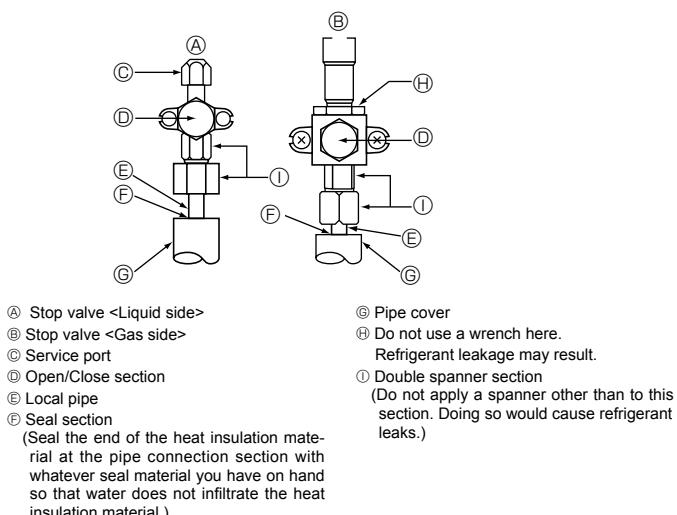

Fig. 4-5
- ② Vacuum-purge air from the indoor unit and the connection piping.
- ③ After connecting the refrigerant pipes, check the connected pipes and the indoor unit for gas leaks. (Refer to 4.4 Refrigerant pipe airtight testing method)
- ④ A high-performance vacuum pump is used at the stop valve service port to maintain a vacuum for an adequate time (at least 1 hour after reaching -101 kPa (5 Torr)) in order to vacuum dry the inside of the pipes. Always check the degree of vacuum at the gauge manifold. If there is any moisture left in the pipe, the degree of vacuum is sometimes not reached with short-time vacuum application. After vacuum drying, completely open the stop valves (both liquid and gas) for the outdoor unit. This completely links the indoor and outdoor refrigerant circuits.
- ⑤ Use sealant to seal the ends of the thermal insulation around the pipe connection sections to prevent water from entering the thermal insulation.
4.4. Refrigerant pipe airtight testing method (Fig. 4-5)